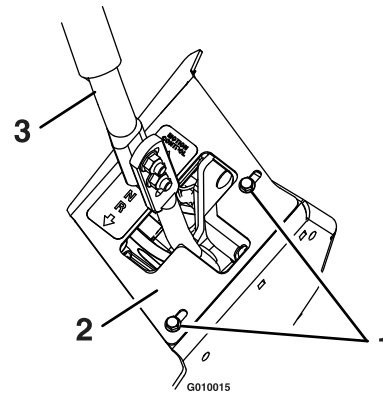

Figure 42
1. Loosen the screws on a cover plate (see Figure 42).